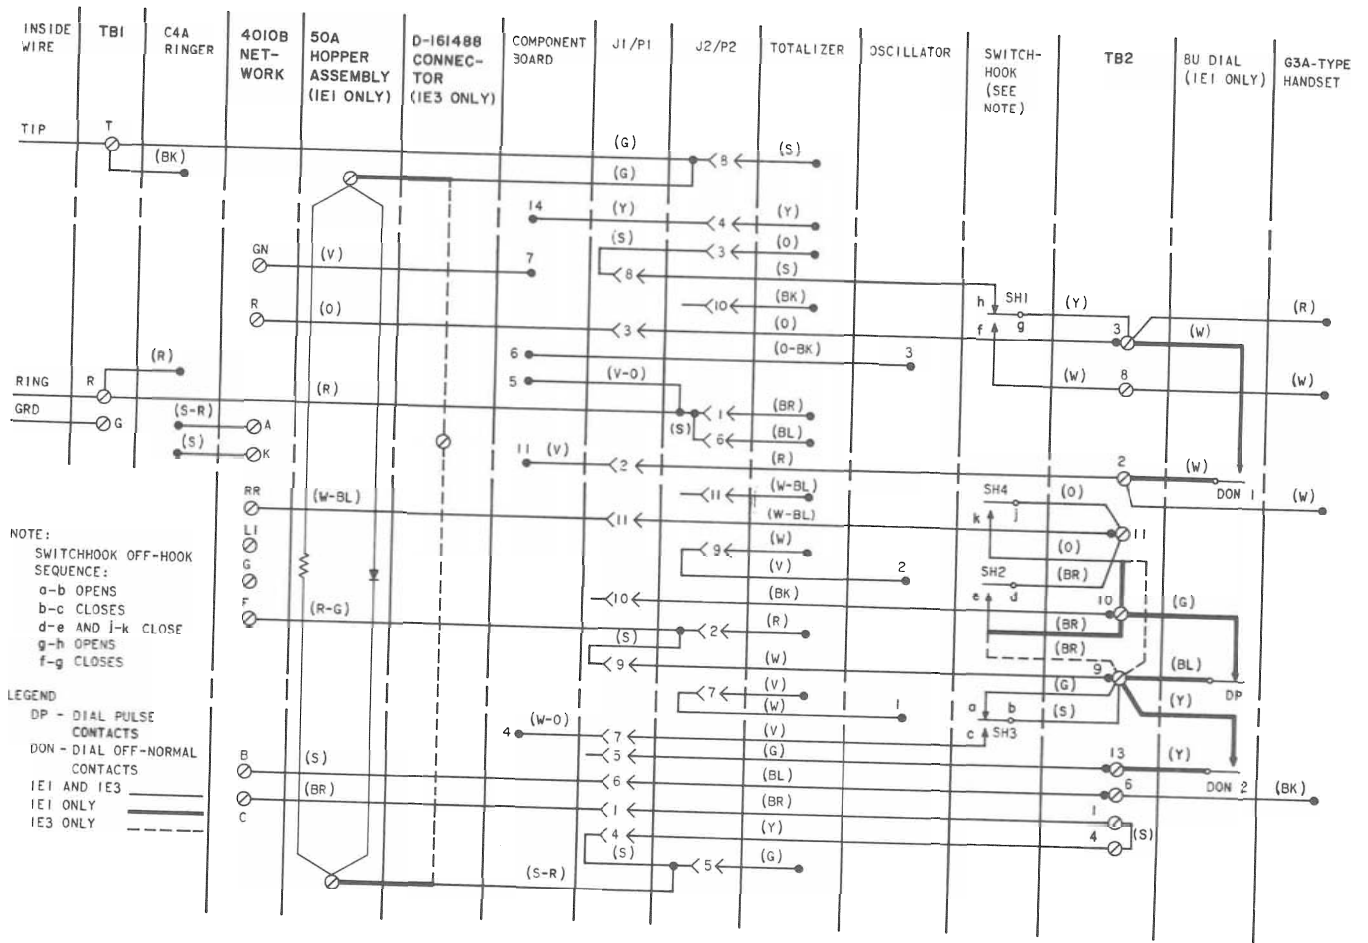

Fig. 14—1E1 and 1E3 Coin Telephone Sets—Connections
5.01 Refer to Fig. 14 for connecting diagram.